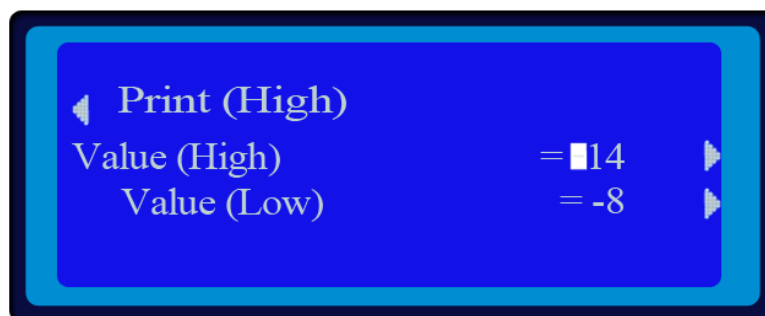

Fig 34: The Bi-Dir Correction Screen
7. Select either + or – as per the correction value where the Bi-Dir is correct (Refer to Fig 34).
8. Enter the Bi-Dir correction value to calibrate the print head (Refer to Fig 34).